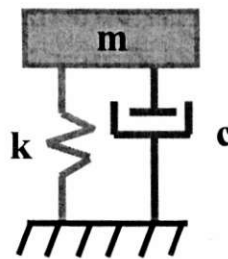

Figure 1
- [1] Derive and solve the equation of motion for the system presented in Figure 1? Estimate the displacement at $t = 0$ & 0.25 sec by using the following data $\phi = 0$, $m = 10 \text{ k-sec}^2/\text{ft}$, $k = 15 \text{ k/ft}$, $c = 0.0912 \text{ k-sec/ft}$, $\zeta = 3\%$, $\omega = 1.1 \text{ rad/sec}$, $C_1 = 0.5$, $C_2 = 1.5$.